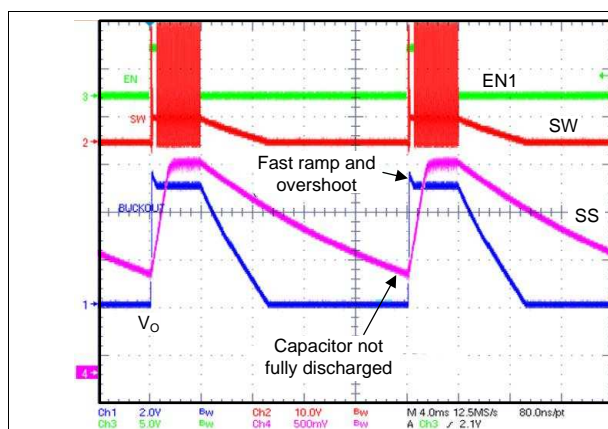

Figure 16. Partially Discharged SS Capacitor Causing Overshoot on  $V_O$
- VIN-overshoot (up to 1 V was observed, see Figure 16)